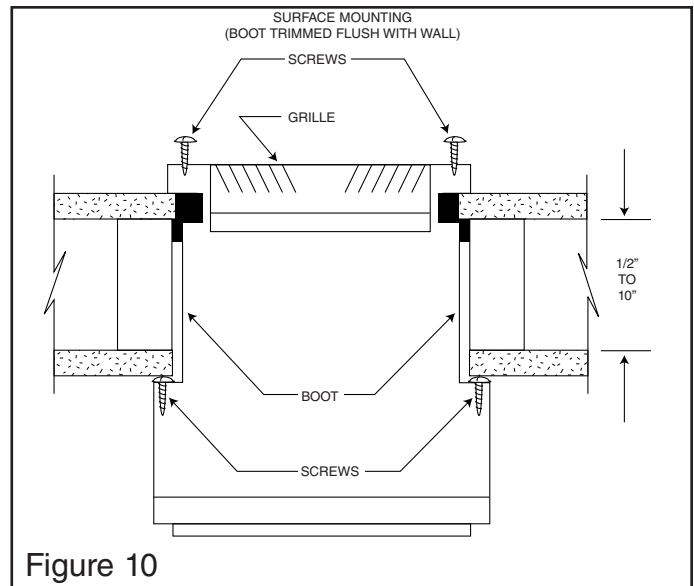

Figure 10
6. With a 1/8 inch drill bit, drill (2) holes through plaster or drywall and the cabinet for attaching grille.
7. Attach the grille with screws provided (Fig.10). The 10 inch boot is not required for recessed installation.
11. With a 1/8 inch drill bit, drill (2) holes through plaster ground and plaster (or drywall).
12. Attach grille with screws provided (Fig. 10).